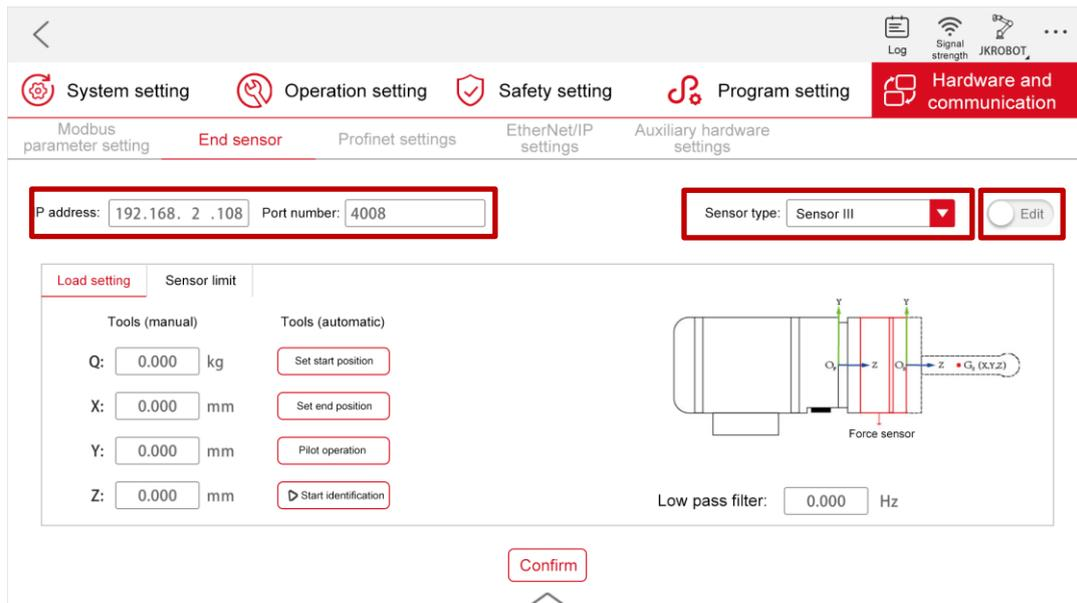

Figure 3-2 Se System Configuration Interface (I/III Network Port Type)
As shown in Figure 3-2, select "Use the following IP address", modify the IP address to "192.168.2.100", modify the subnet mask to "255.255.255.0", and modify the default gateway to "192.168.2.1";
- f. As shown in Figure 3-2, tap [Settings] at the upper right of the Home page, and then tap [Hardware and communication] → [End sensor] to enter the sensor configuration interface;